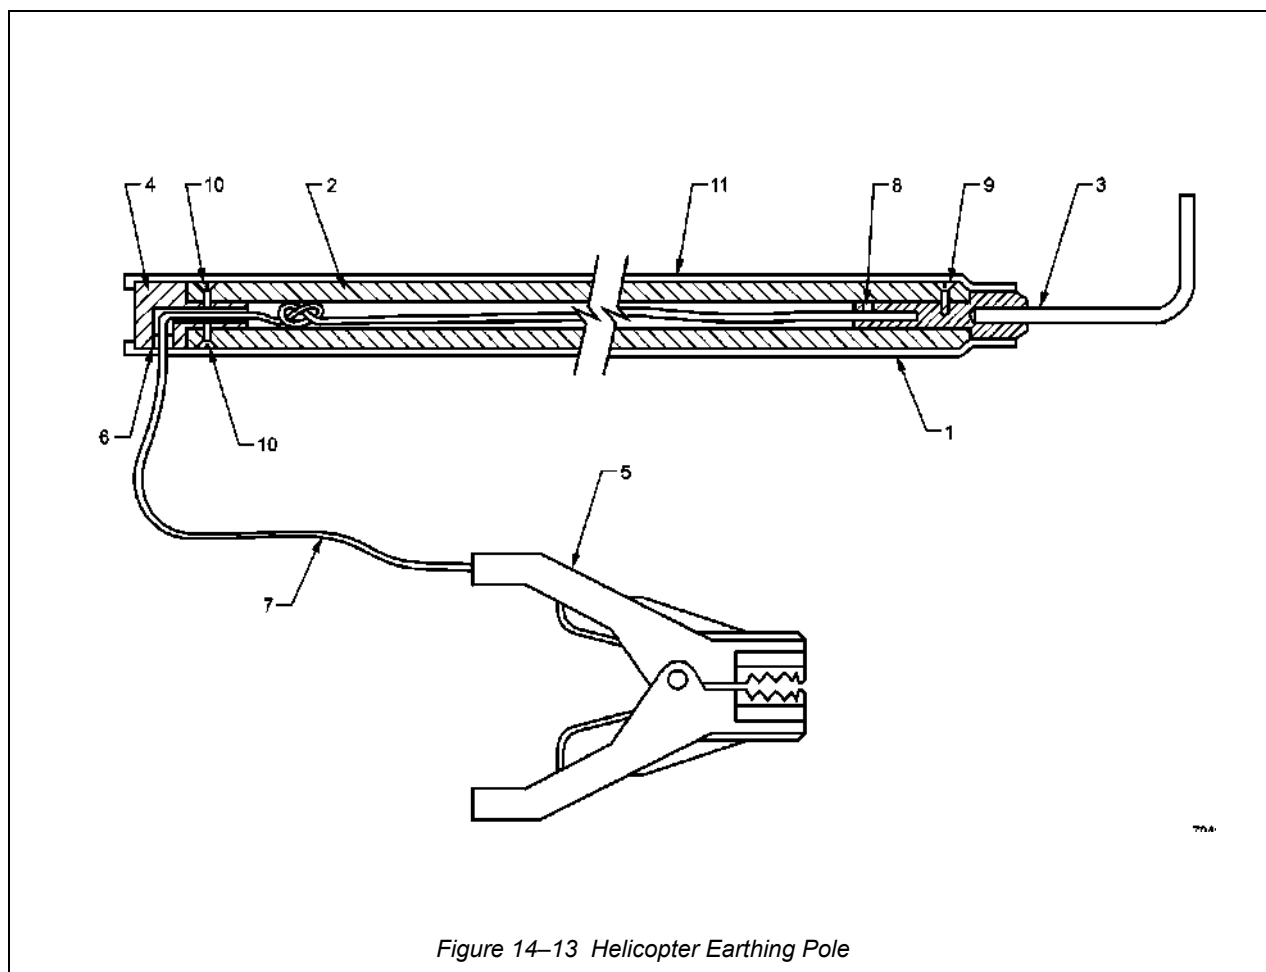

Figure 14-13 Helicopter Earthing Pole
86. Helicopter earthing poles are used to earth helicopters while in the hover, prior to personnel contacting the aircraft during cargo hookup etc. Details of a helicopter earthing pole are shown Figure 14-13. Each earthing pole should be inspected for general cleanliness, corrosion and fraying or damage to leads. Carry out a continuity test between the pole tip and the earthing clip or spike to ensure that the resistance is no greater than 2 ohms. This inspection and test should be carried out monthly and recorded in a log.